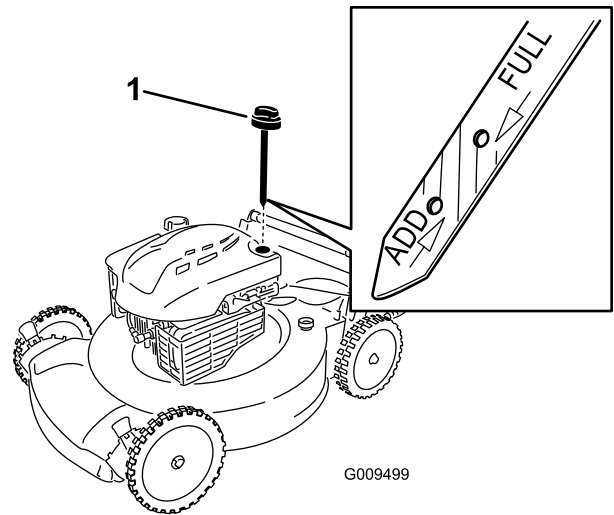

Figure 4
2. Remove the dipstick by rotating the cap counterclockwise and pulling it out (Figure 4).
**Note:** If the oil level is below the **Add** mark on the dipstick, **slowly** pour a small amount of oil into the oil fill tube, wait 3 minutes, and repeat steps 3 through 5 until the oil level is at the **Full** mark on the dipstick (Figure 4).